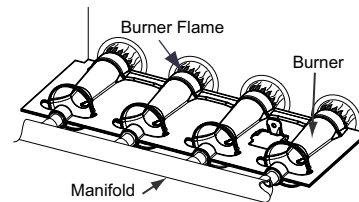

Fig. 64 – Burner Flame
- When correct input is obtained, replace caps that conceal gas valve regulator adjustment screws. Main burner flame should be clear blue, almost transparent. See Fig. 64.